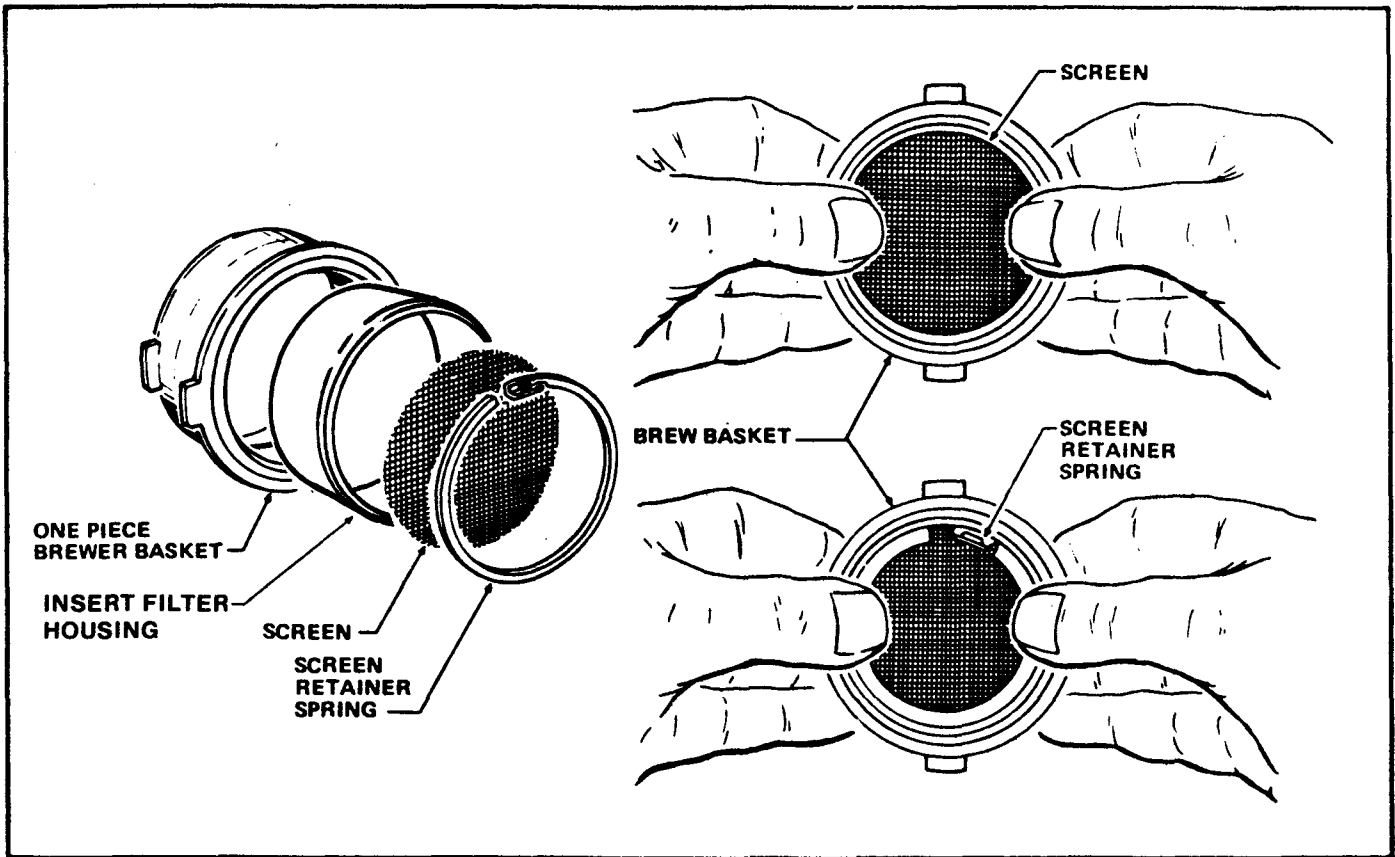

Figure 3-20. Removal and Replacement of the Brewer Basket Screen
- B. Remove the Screen Retainer Spring from the one piece Brewer Basket. See Figure 3-20.**